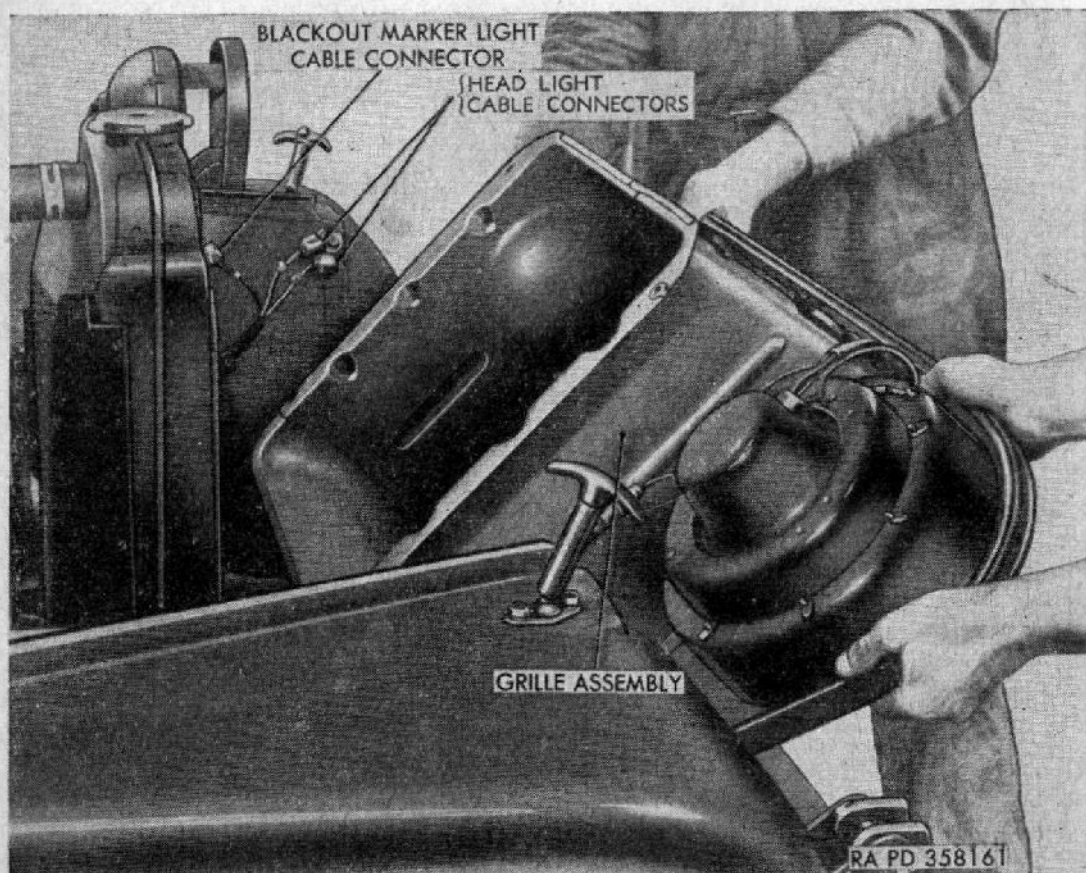
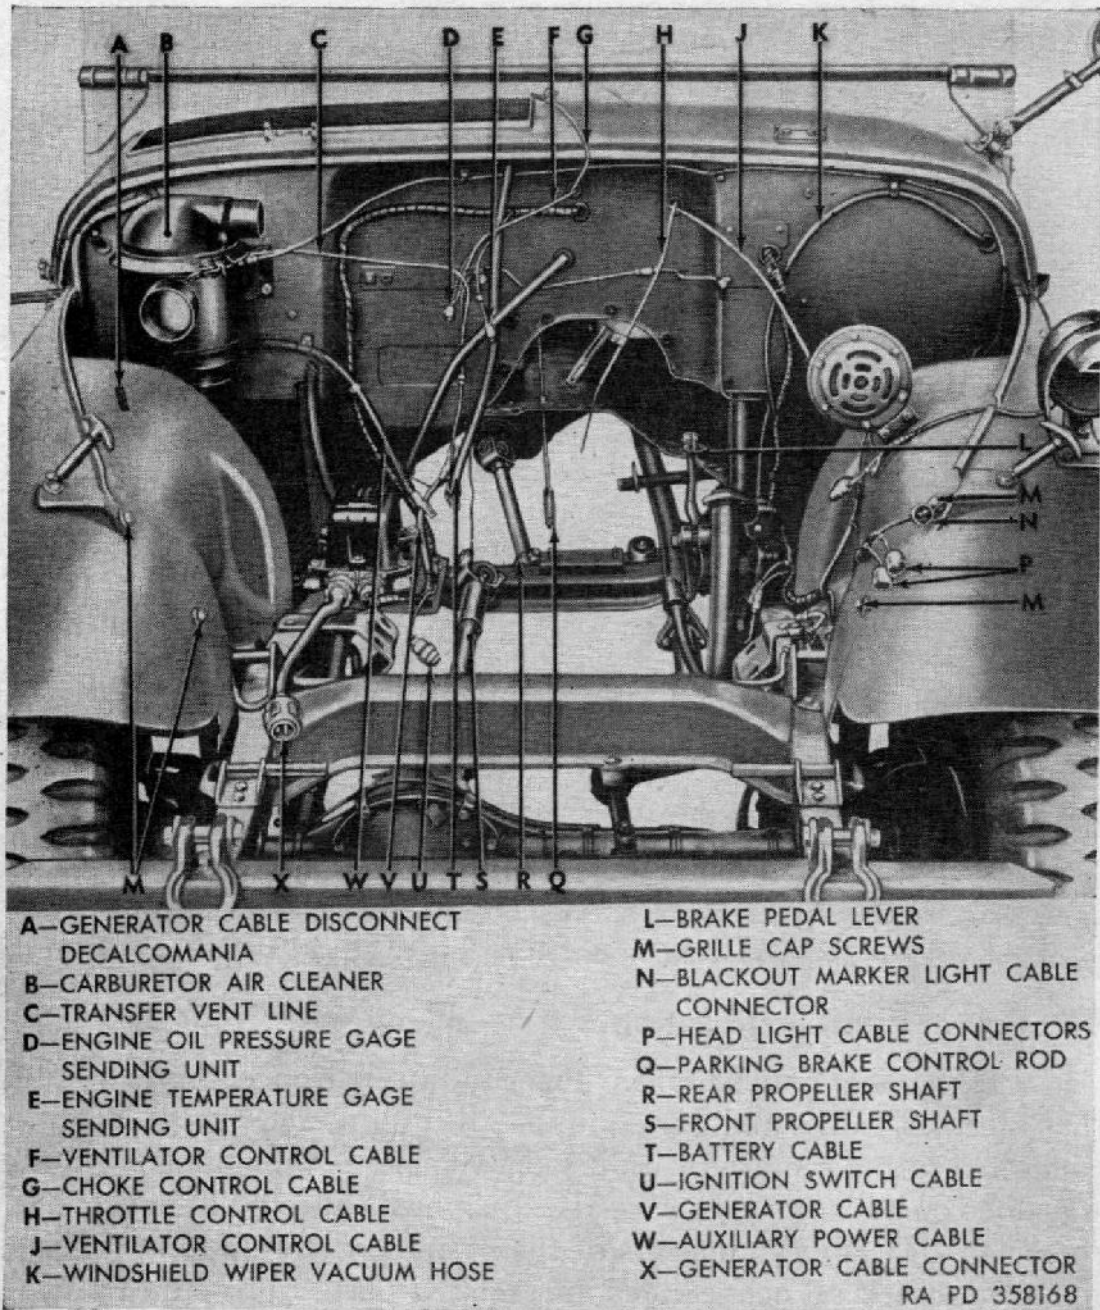

Figure 34. Removing grille.
Figure 41. Engine compartment with power plant removed.
*b. Operations at Front of Vehicle.* Remove two radiator to grille screws (G, fig. 35) on left side and two screws on right side attaching radiator to grille. Disconnect the headlight and blackout marker light cables at the connectors (fig. 34) on the inside of the left fender. Loosen two grille cap screws (M, fig. 41) securing the grille to right front fender from the inside of the engine compartment and one from the outside at the bottom of the fender. Repeat for opposite fender. Pull top of grille away from front fenders and radiator until flat section of hinge pin lines up with slot in hinge and remove grille (fig. 34).
- (1) Loosen set screw securing ventilator control cable (B) to lower crankcase ventilator control valve and remove screw and nut securing ventilator control cable to control cable bracket. Swing control cable out of way. Remove two cap screws (G) and lock washers securing front engine support to frame.
- (2) Make certain fuel shut-off valve is off and disconnect fuel line at flexible fuel line (F).
- (3) Remove safety nut and cap screw connecting exhaust manifold (D) to exhaust pipe (E). Push down on exhaust pipe flange to disconnect exhaust pipe from exhaust manifold and remove exhaust manifold gasket.
- (4) Disconnect windshild wiper vacuum line from vacuum tee (C) attached to windshield wiper vacuum line.
- (5) Remove cap screw securing the shank of the brake pedal to brake pedal lever (L, fig. 41) and, from the passenger compartment, remove the brake pedal.
- (6) Remove cotter pin and washer from throttle block at upper hole in accelerator bellcrank below exhaust manifold. Pull and/or push accelerator pedal and linkage back through toe board.
*g. Operations at Front of Vehicle.* Install grille, alining flat section of hinge pin with slot in hinge and swing grille up until slots in grille enter the cap screws on both front fenders. Make sure flat washer is between cap screw and flange on grille. Install four radiator to grille screws (G, fig. 35) (two on each side) securing radiator to grille and tighten screws. Tighten six (three on each side) cap screws securing fenders to grille. Connect headlight and blackout marker light cable connectors (fig. 34). Connect battery ground cable (fig. 78) and install the hood (par. 216).